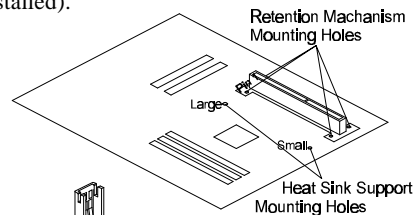

Figure 2-6
1. Finds out the Universal Retention Mechanism (URM) Mounting Holes of Slot1 on HOT-675 main board. (Refer to Figure 2-6)